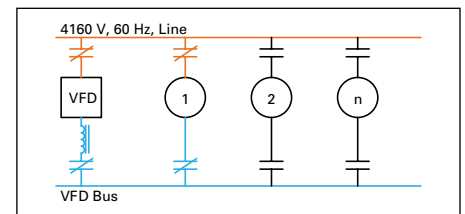

Figure 10.4-18. VFD Synced to Input
- PLC closes motor select (Figure 10.4-18)